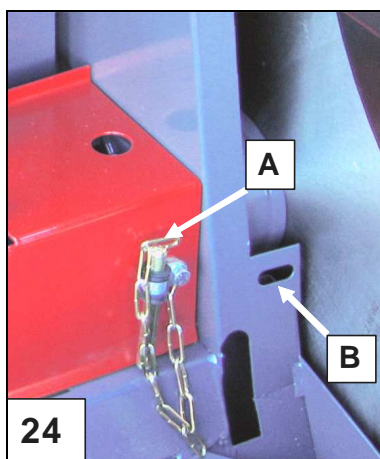

Fig. 24. Removing the crosscut saw-blade
3. Put pin A into hole B indicated by the arrow (Figure 24) to prevent the saw-blade from rotating and twist open the saw-blade nut (right-handed thread, 36 mm spanner). The thread on the nut is M 24 x 2.